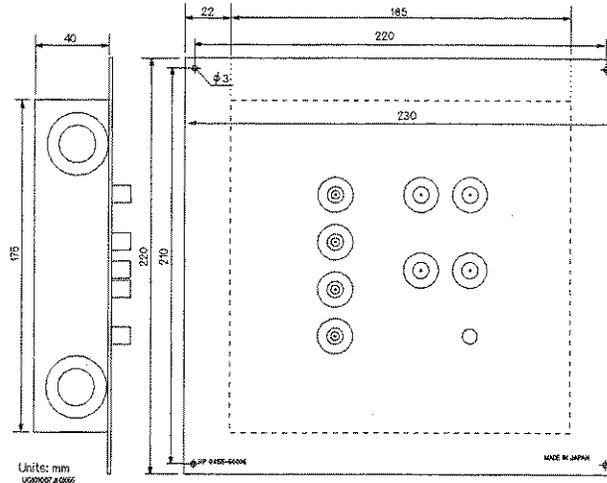
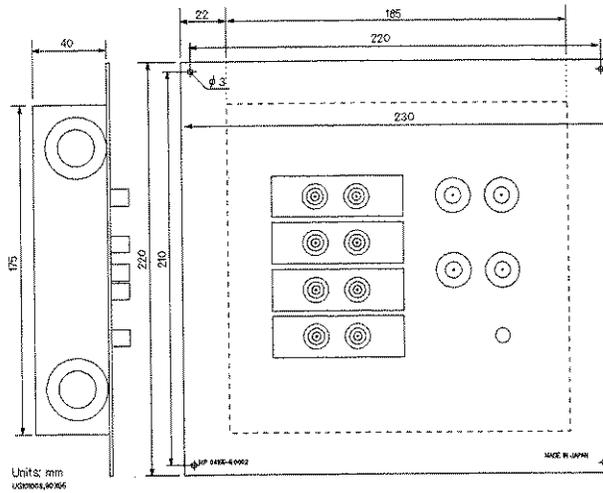

Figure 2-2.
Figure 2-3.
2. Create proper openings and screw holes on your shielding box that match the size of connector plate. See Figure 2-2, Figure 2-3, or Figure 2-4 for dimensions of the connector plates.